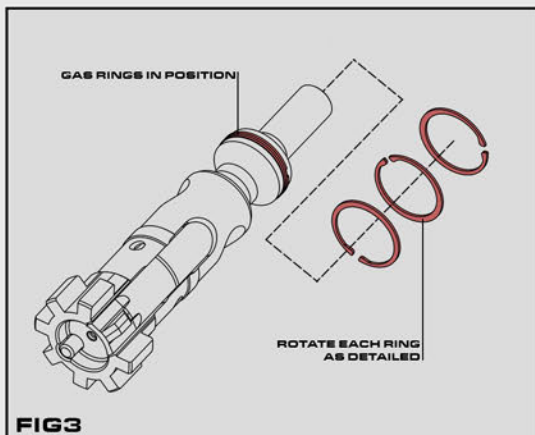

FIG3
3. MAKE SURE THE GAS RINGS IN THE REAR SECTION OF THE BOLT ARE STAGGERED, PLACE THEM AT 120° APART. THIS WILL CREATE THE BEST GAS SEAL. USE A SHARP POINTED TOOL TO PUSH THE RINGS AROUND, FIG3.